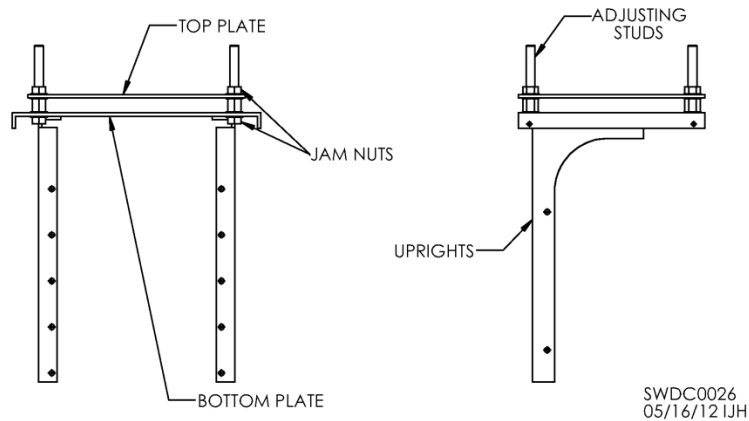

Fig. 44 – Fastening motor mount to reducer
Attach front and back motor mount supports (uprights) to reducer. Fasten four (4) long adjusting studs, one at each corner of bottom plate, using four (4) jam nuts as shown in Fig. 44. Securely tighten nuts. They will not require any further adjustment. Add one larger jam/spacer nut to each stud and thread to about middle of stud. Slide top motor mounting plate over studs to rest on jam/spacer nuts. Thread remaining jam nuts onto studs to secure top motor mounting plate. Do not fully tighten these nuts yet.